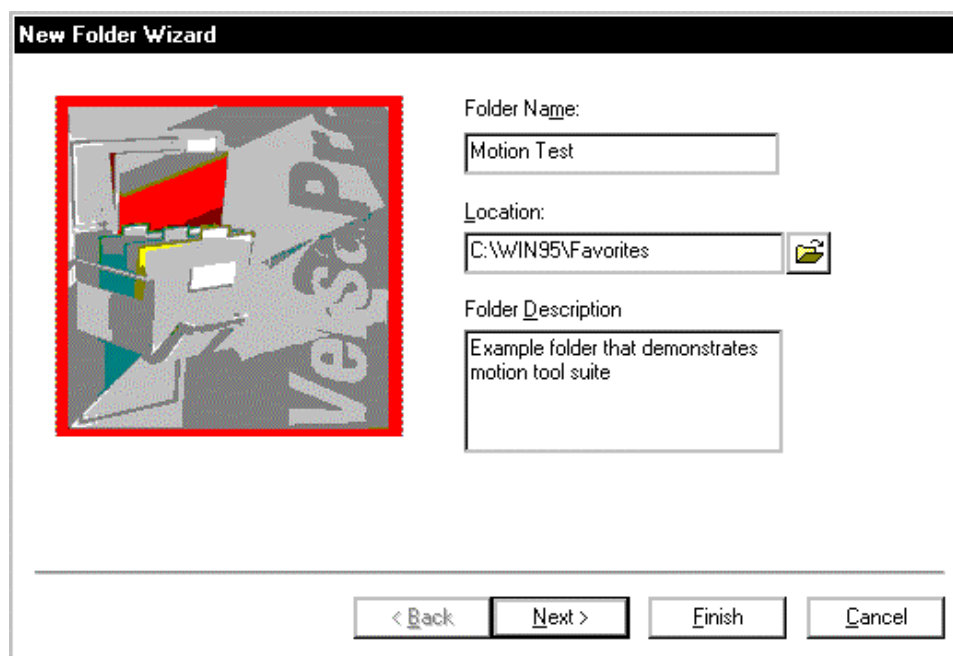

Figure 2-18. New Folder Wizard Page 1
- A. To create a VersaPro folder select the File menu followed by New Folder. This opens the New Folder Wizard. You are prompted to enter a Folder Name, a location, and a Folder Description. For this example, enter the text as shown in the dialog box. (Figure 2-18)